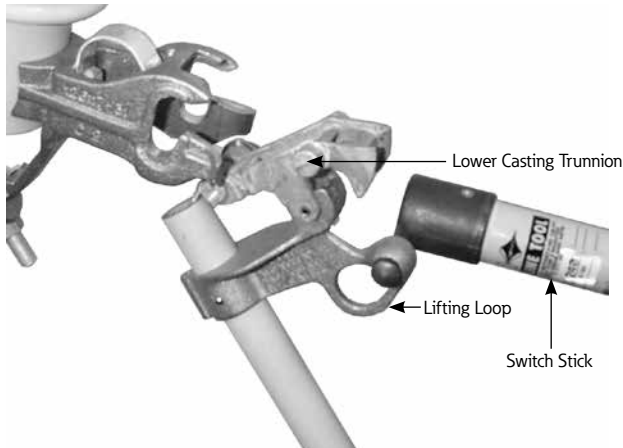

Figure 6. Attaching the fuse holder.
- Guide the fuse holder lower casting trunnion into the cutout hinge and disengage switchstick. Figure 6.